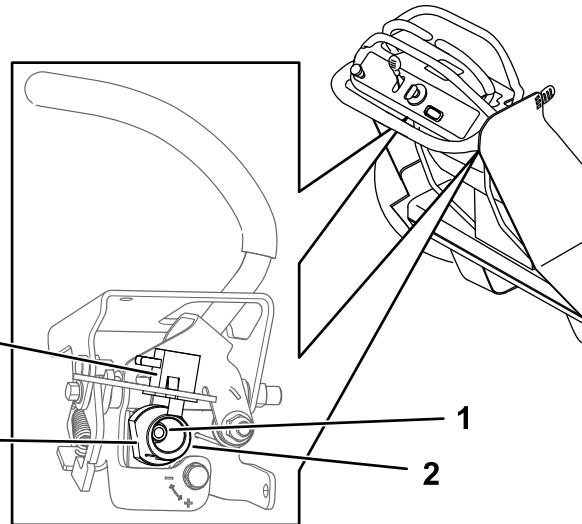

Figure 61
5. Loosen the nut holding the cam for the motion-control lever you are adjusting (Figure 61).
6. Adjust the cam until it aligns with the other motion-control lever and tighten the nut for the cam (Figure 61).
**Important:** Do not rotate the flat of the cam past vertical. The operator-presence control switch should never contact the flat of the cam (Figure 61).